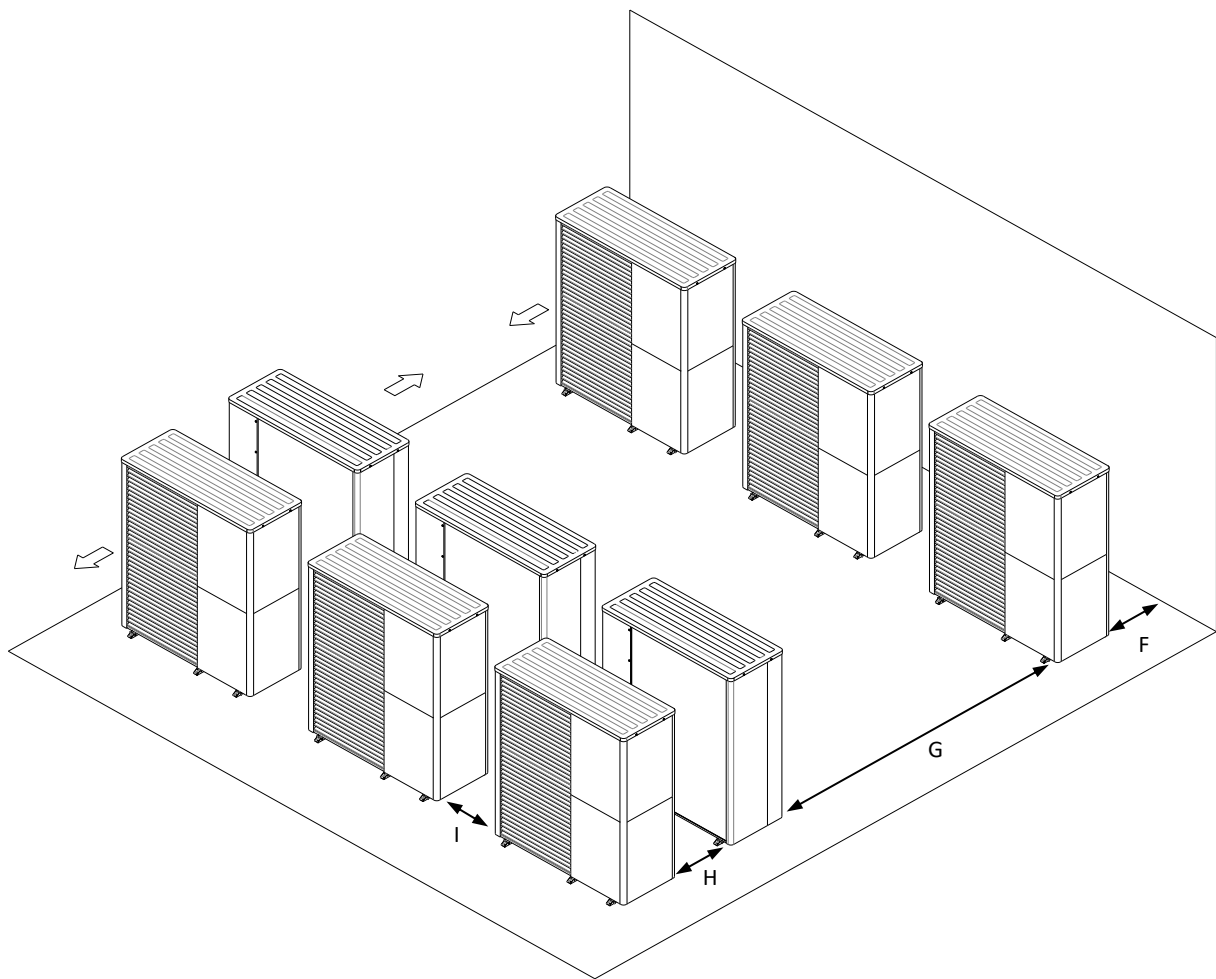

Figure 2.9. Areas of minimum recommended operating between the units. (dimensions in mm).
- Do not attempt to guide the air that enters or exits the module. The unit must be installed on the outside with no ducts of any description and following the minimum distances specified in figure 2.9.